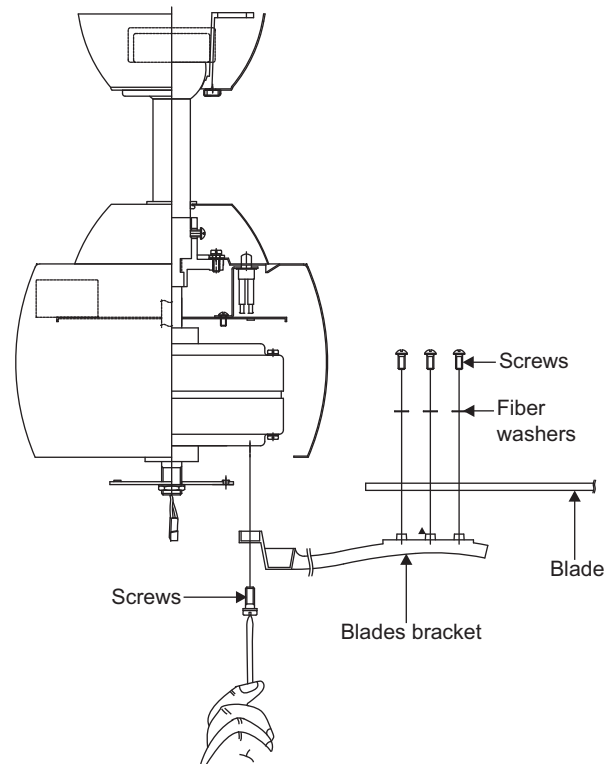

Figure 13
Step 1 Attach the blade to the blade bracket using the screws and fiber washers as shown in Figure 13. Start screw into bracket. Repeat for the two remaining screws.
Step 3 Fasten blade assembly to motor using the screws supplied. (Fig. 13)